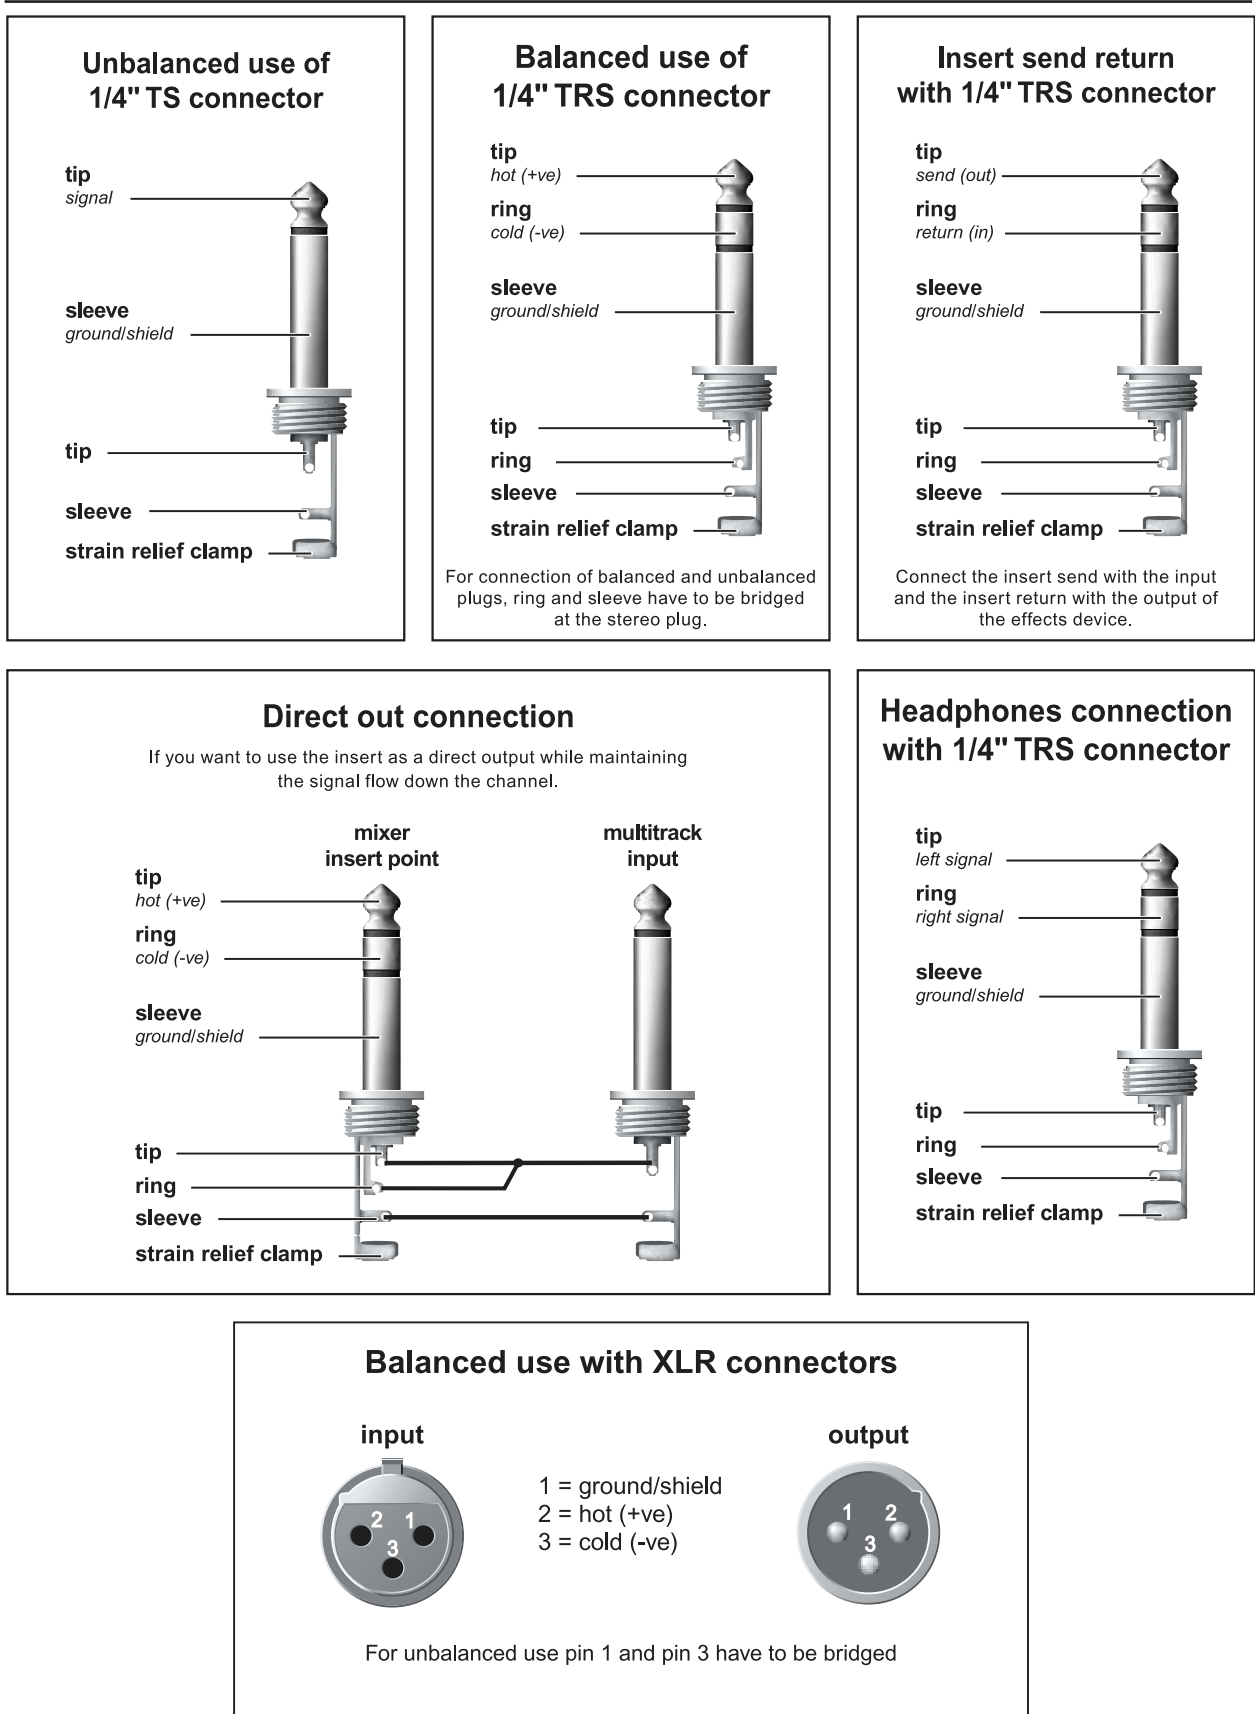

Fig. 7.1: Different plug types
-  Insert points may also be used as pre-EQ direct outputs without interrupting the signal flow. See fig. 7.1 “Direct out connection”.